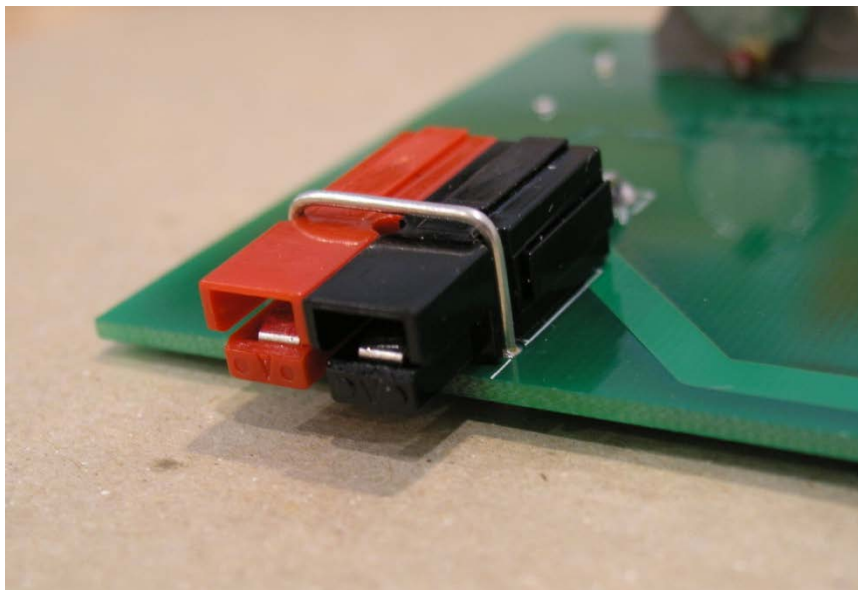

Figure 25. Wire staple holding power connector to PCB
12. Insert the wire staple around the power connector as shown in Figure 25. The staple should slide through grooves on the sides of the connector as shown in the figure. Solder the two ends of the staple to the top side of the PCB.